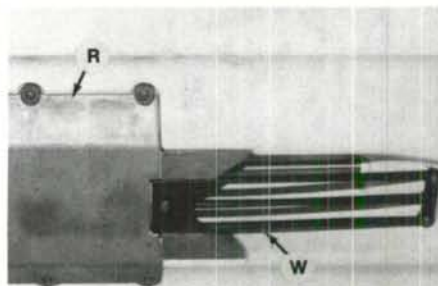

Fig. JS3-45—View identifying jet pump water intake grill (W) and cover (R).
R&R AND OVERHAUL. Disconnect battery cables from battery. Remove jet pump water intake grill (W—Fig. JS3-45)
to fittings on jet pump. Reattach steering linkage joint (J) onto ball joint on steering nozzle (N). On JF650 models, reattach trim linkage joint onto ball joint on trim nozzle. Install jet pump cover (R—Fig. JS3-45) and water intake grill (W) and tighten retaining screws to 10 N·m (88 in.-lbs.).
ADJUSTMENT. With trim knob (K—Fig. JS3-51) rotated complete clockwise (down), jet pump steering nozzle (N—Fig. JS3-46) should almost touch jet pump cover (R—Fig. JS3-45). If not,